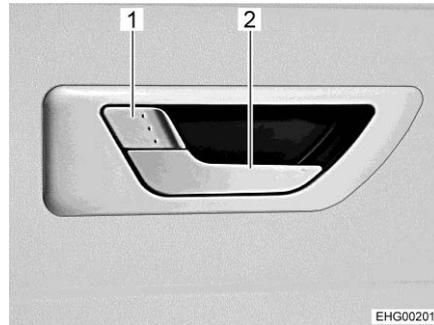

Fig. 48 Door lock of conversion door
- Opening:* ■ When the door lock is locked: Pull the long door handle (Fig. 48,2). The door is unlocked and open.
- Locking:* ■ Press the short door handle (Fig. 48,1) of the closed door.